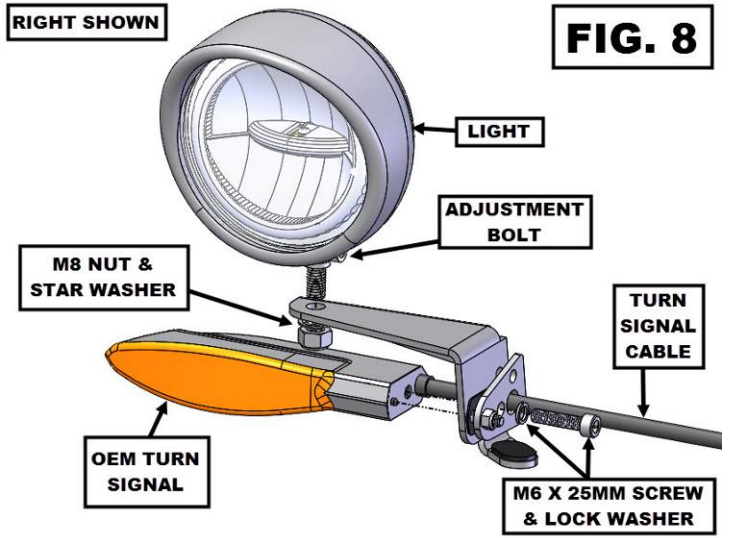

FIG. 8
16. REINSTALL THE OEM TURN SIGNAL BY FIRST ROUTING THE CABLE THROUGH THE LARGE HOLE IN THE MOUNT AND LINING THE SMALL KNOB UP WITH THE HEX IN THE M5 FLAT HEAD SCREW. SEE FIG. 8.
17. FROM THE INSIDE INSTALL THE M6 X 25MM LONG SOCKET HEAD SCREW WITH A LOCK WASHER THROUGH THE MIDDLE HOLE AND INTO THE OEM TURN SIGNAL. TIGHTEN THE SCREW WITH A 5MM ALLEN WRENCH. SEE FIG. 8.
18. INSTALL ONE OF THE LIGHTS FROM THE KIT THROUGH THE MOUNTING HOLE ON THE RIGHT MOUNT. SEE FIG. 8
19. USING A 5MM ALLEN WRENCH AND A 10MM SOCKET TIGHTEN THE ADJUSTMENT BOLT ON THE LIGHT. SEE FIG. 8.